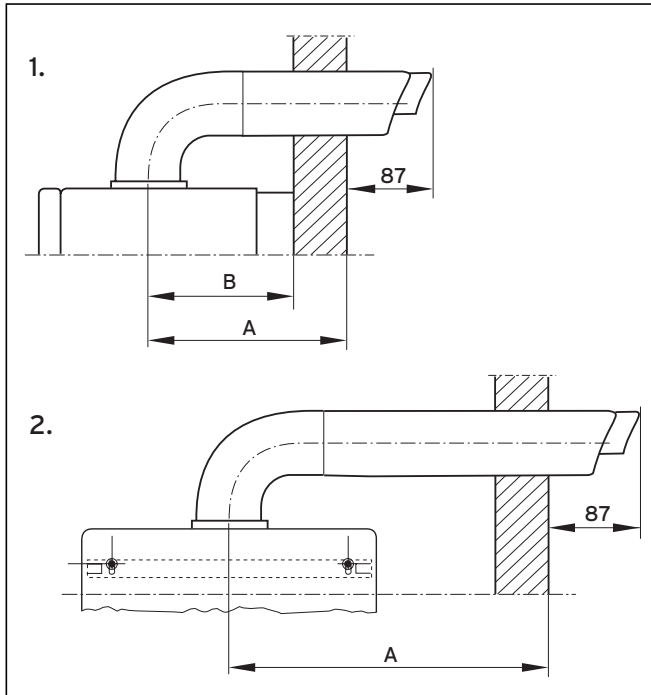

Fig. 2.8 Distance to external wall
- Measure the distance from the outside face of the wall to the centre of the fan outlet on the boiler (fig. 2.8). This is dimension A.